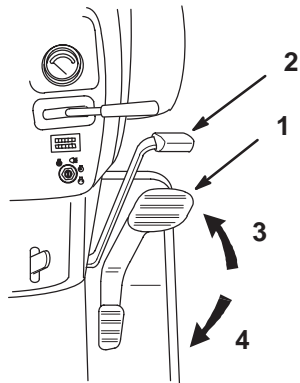

Figure 16
- Place your foot on the traction control pedal and slowly press on the top of the pedal to move forward, or on the bottom of the pedal to move backward (Fig. 16). The farther you move the pedal in either direction, the faster the machine will move in that direction.